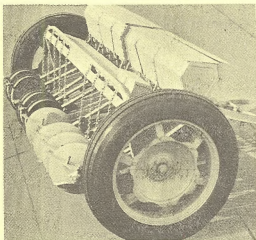

Figure 3. Model B
1. The main grain boxes are closely joined at the center of the Model PD and spaced about 5 inches apart on the Model B (Figure 3).